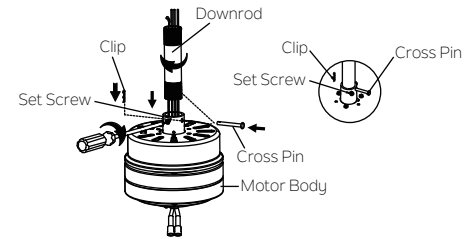

Fig. 7
Step 3. Loosen the two set screws and remove the clip and cross pin from the top coupling of the motor body. Carefully feed the fan wires and safety cable up through the downrod. Thread the downrod onto the motor coupling until the cross pin holes are aligned. Next, replace the cross pin and clip, and tighten both set screws. (Fig. 7)